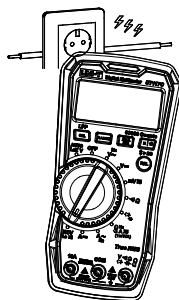

Figure 10
10. Non-contact AC voltage (NCV) detection (Figure 10)